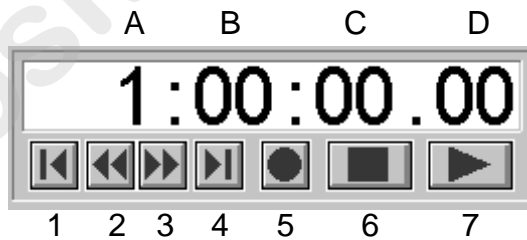

Figure 8.6. CD Clock Source
- **CD**- uses the clock from the *Status Cue* computer's CD ROM drive to synchronize cues with an audio CD. In the display (A:B:C.D) *A* is the track, *B* is the minutes, *C* is the seconds, and *D* is frames. Refer to Figure 8.6.